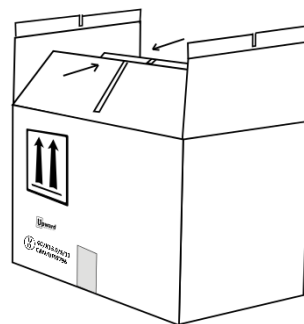

Figure 5
8. Fold flaps on top of carton (long edge first) and seal with one strip of tape. Extend tape beyond each edge by at least 2". (See Figures 5 & 6)